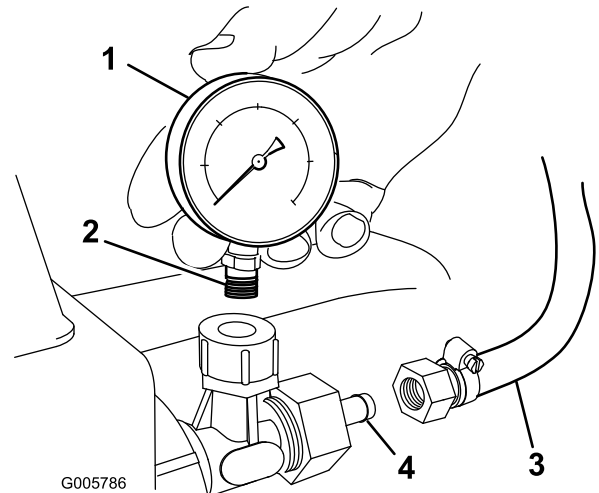

Figure 9
13. Wrap Teflon tape around the threads of the pressure gauge (Figure 9).
14. Install the pressure gauge into the open port to the right of the control valve (Figure 9).
1. Locate the small, clear O-ring in loose parts and lubricate it using a non-petroleum based lubricant such as vegetable oil. Install the O-ring between the long hose and control valve assembly (Figure 9).
2. Connect the threaded fitting on the end of the long hose to the control valve assembly (Figure 9).